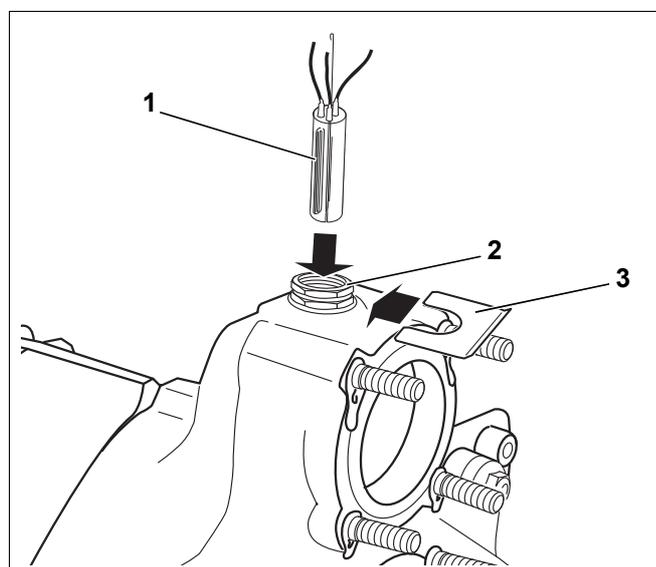

Fig. 45 Sensor bundle installation
The sensor bundle (three sensors, one sensor blank Fig. 45, [1]) connected to the control unit is fitted into the 3/4" sensor well.
- Lead the capillary sensor to the measuring point on the boiler and insert it into the sensor well (Fig. 45, [2]); then secure the assembly with a sensor securing device (Fig. 45, [3]).